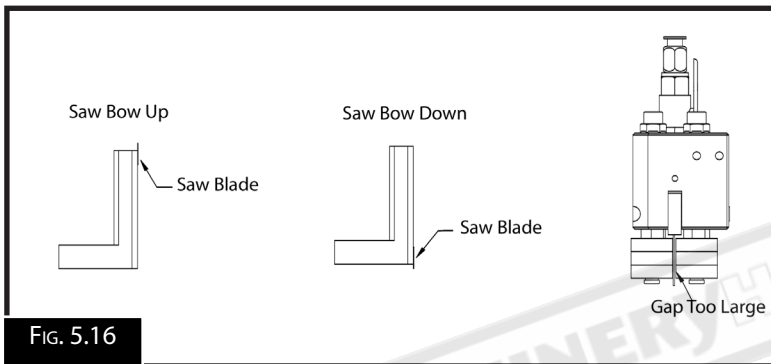

FIG. 5.16
2. Inspect the blade guides to see if there is a gap between the bearings and the blade (Fig.5.16)